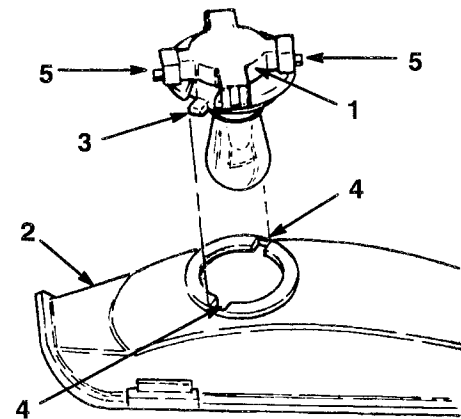

Figure 17
3. Rotate the bulb holder 1/4 turn counterclockwise and remove it from the reflector (Fig. 17).
2. The bulb holder has two tabs (Fig. 17). Align the tabs with the slots in the reflector, insert the bulb holder into the reflector and rotate it 1/4 turn clockwise until it stops.